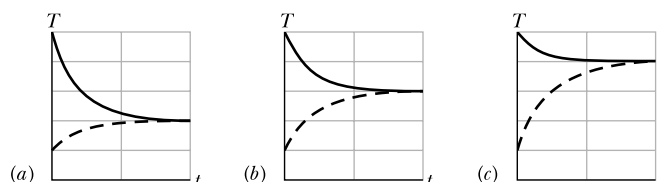

Figure 18.6 Question 11.
**11** A hot object is dropped into a thermally insulated container of water, and the object and water are then allowed to come to thermal equilibrium. The experiment is repeated twice, with different hot objects. All three objects have the same mass and initial temperature, and the mass and initial temperature of the water are the same in the three experiments. For each of the experiments, Fig. 18.6 gives graphs of the temperatures  $T$  of the object and the water versus time  $t$ . Rank the graphs according to the specific heats of the objects, greatest first.